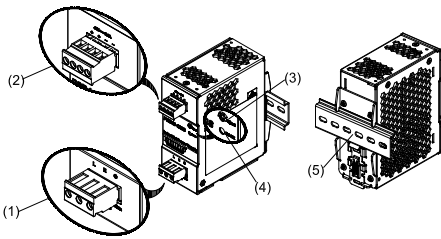
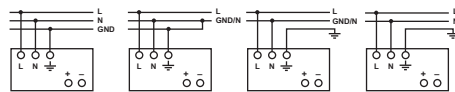

Figure 1
Figure 6
2. Device description (Fig. 1)
5.1. Input connection (Fig. 1 (1), Fig. 6)
Use L, N and GND connections of input terminal connector (see Fig. 1 (1)) to establish the 100-240 VAC connection.
5.2. Output connection (Fig. 1 (2))
Use the "+" and "-" screw connections to establish the 48 VDC connection. The output provides 48 VDC. The output voltage can be adjusted from 48 to 56 VDC on the potentiometer. The green LED DC OK displays correct function of the output (Fig. 1 (4)). The device has a short circuit and overload protection and an overvoltage protection limited to 57 VDC.